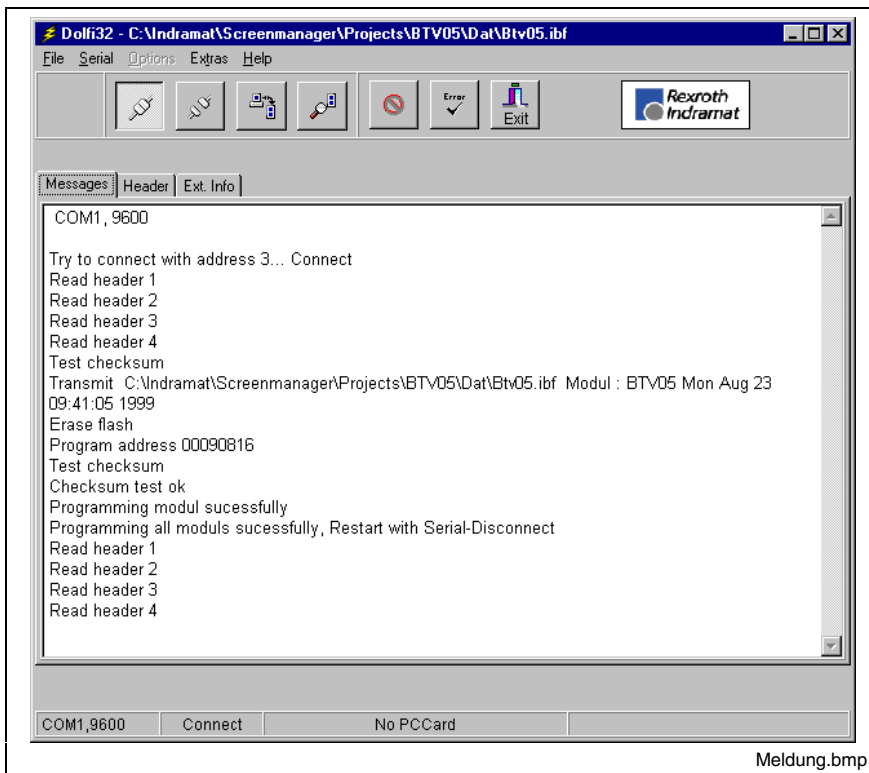

Fig. 8-3: INDRAMAT Flash tool "Dolfi"
- Fig. 8-3: INDRAMAT Flash tool "Dolfi" 8-3